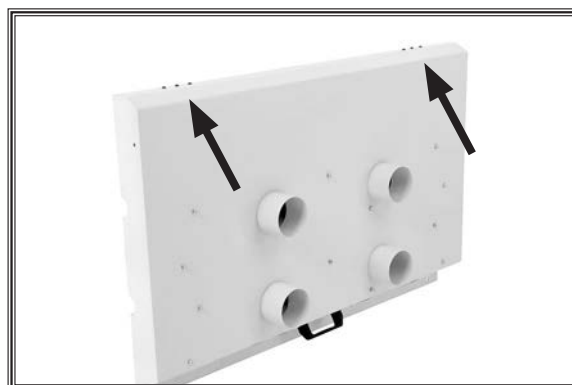
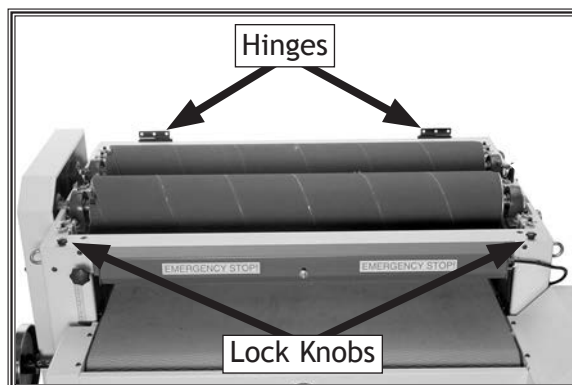

Figure 7. Removing cap screws on top cover.
Figure 8. Lock knobs and hinges.
1. Remove the six button head cap screws from the top cover shown in **Figure 7**, and remove the two lock knobs shown in **Figure 8**.